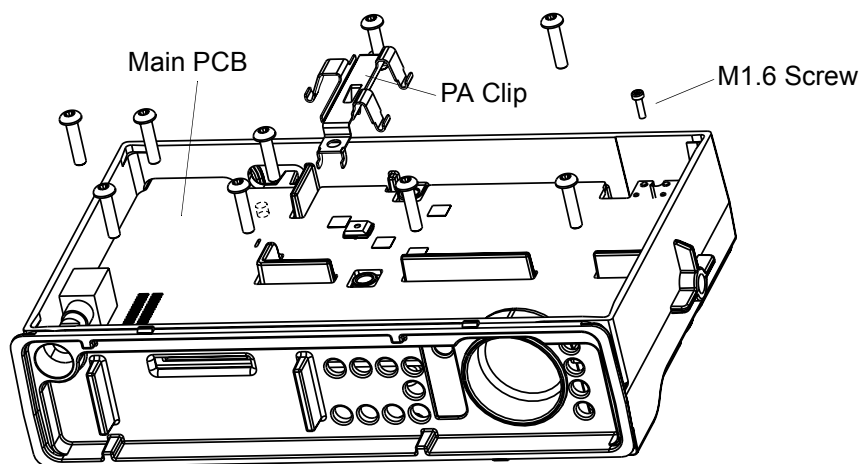

Figure 2-8 PA Clip and Main PCB Removal
1. Remove the screw that attaches the PA clip to the chassis. See Figure 2-8.